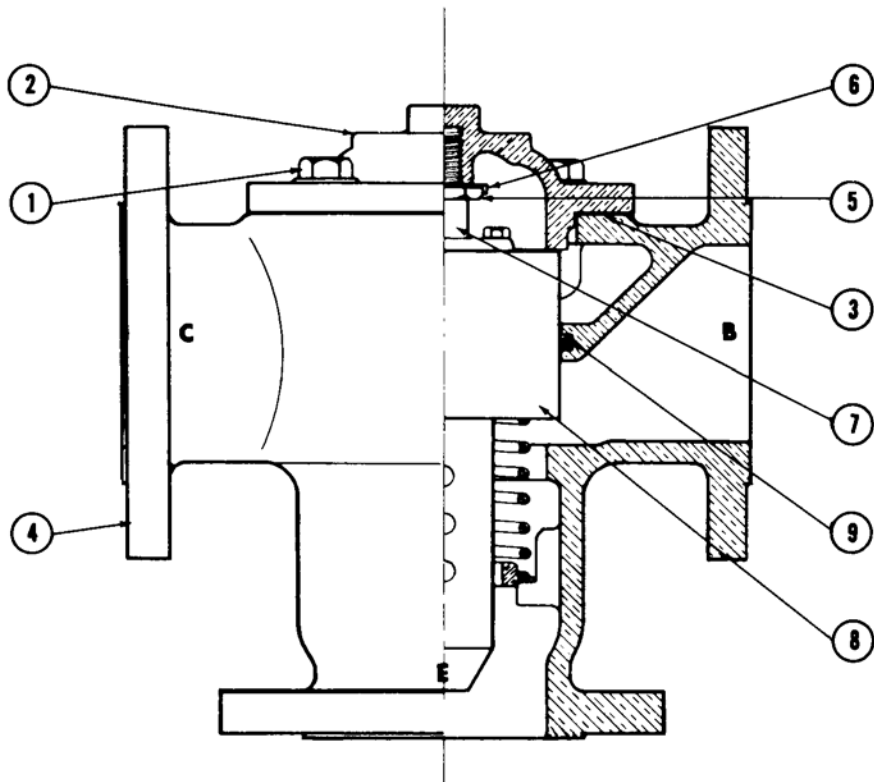

Figure 4
continues to increase, the poppet will continue to move downward until the by-pass port (B) is completely closed off. (See Figure 4.)
4. Reassemble as shown in Figures 4 through 7, depending on valve size.